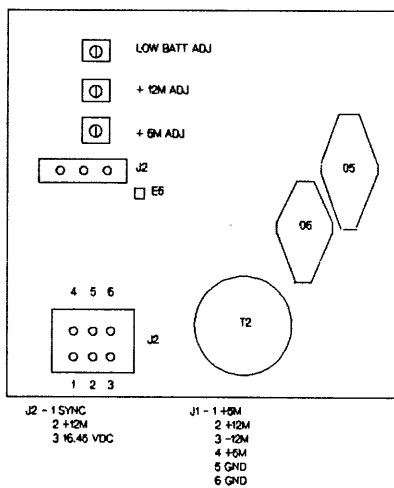

Figure 6-6. Memory Regulator PCA (Series 30,33,39/40/42/42XP/52 and 44/48/58)
2. Adjust the +5M potentiometer R27, shown in Figure 6-6, until voltage is within limits specified in Table 6-1.
4. Adjust the +12M potentiometer R17, shown in Figure 6-6, until voltage is within limits specified in Table 6-1.